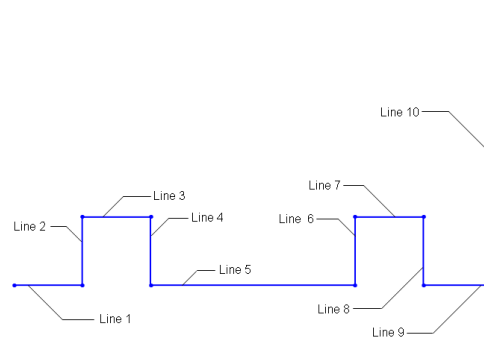

Figure 2-69 Partial outer loop of the sketch
- Draw the outer loop of the sketch, refer to Figures 2-69 and 2-70.
4. Click when the length of the line above the line cursor is displayed as 10; a horizontal line is created. Refer to Line 1 in Figure 2-69.
6. Click when the length of the line above the line cursor is displayed as 10; a vertical line is created. Refer to Line 2 in Figure 2-69.
7. Move the line cursor horizontally toward the right. Click when the length of the line above the line cursor is displayed as 10; the next horizontal line of 10 mm length is drawn. Refer to Line 3 in Figure 2-69.
8. Move the line cursor vertically downward and click when the length of the line on the line cursor is displayed as 10. Refer to Line 4 in Figure 2-69.
9. Move the line cursor horizontally toward the right and click when the length of the line on the line cursor is displayed as 30. Refer to Line 5 in Figure 2-69.
10. Move the line cursor vertically upward and click when the length of the line on the line cursor is displayed as 10. Refer to Line 6 in Figure 2-69.
11. Move the line cursor horizontally toward the right and click when the length of the line on the line cursor is displayed as 10. Refer to Line 7 in Figure 2-69.
12. Move the line cursor vertically downward and click when the length of the line on the line cursor is displayed as 10. Refer to Line 8 in Figure 2-69.
13. Move the line cursor horizontally toward the right and click when the length of the line on the line cursor is displayed as 10. Refer to Line 9 in Figure 2-69.
14. Move the line cursor vertically upward and click when the length of the line on the line cursor is displayed as 40. Refer to Line 10 in Figure 2-69.